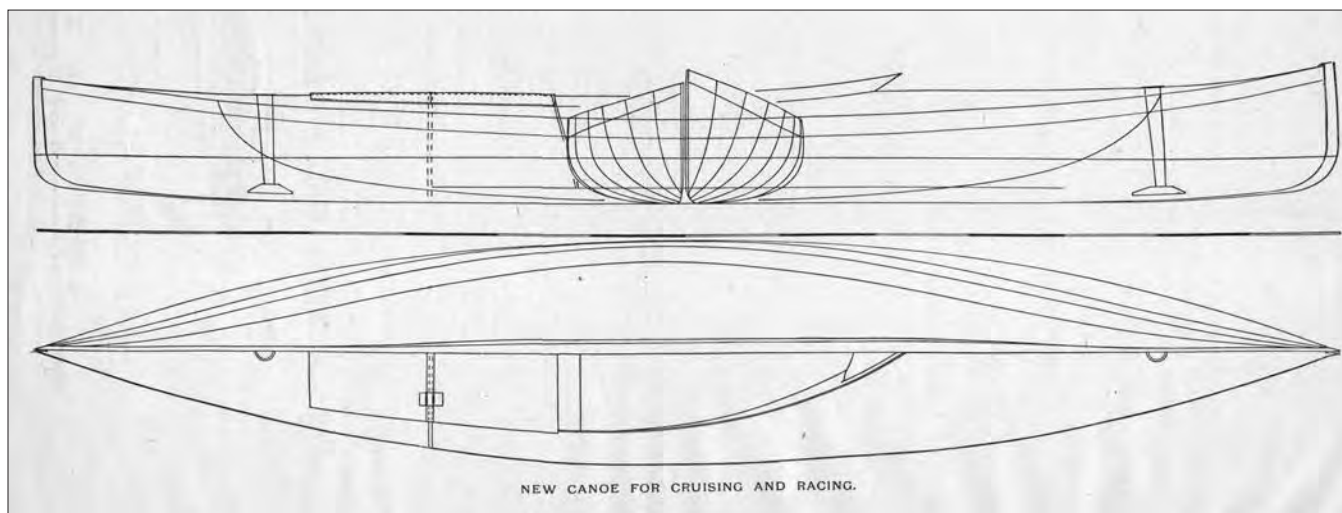

Figure 5. Stephens designed the American Cruising Canoe in 1884. Source: *Forest and Stream*, November 20, 1884.
**American Cruising Canoe.** This canoe (Figure 5) was designed for use in the open waters around New York City and was an attempt to combine characteristics that would make effective for both cruising and racing. The design was published in the November 20, 1884, issue of *Forest and Stream*, and in the accompanying article the plumb stern post is described as a novel feature that increased the waterline length without increasing the overall length of the canoe (all other things being equal, an increase in waterline length increases speed of a boat). The canoe was designed to carry ballast, as was still common for canoes of this time period. Stephens suggested that for cruising, the sails should have areas of 50 and 20 square feet, and for racing 70 square feet in the main-sail and 25 in the mizzen. Recommended construction was lapstrake with cedar planking and a mahogany sheer strake and mahogany decks. Stephens also specifically recommends fastening the white oak ribs with rivets peened over copper burrs, not clinch nails. It took him three years or more, but Stephens built himself a canoe to this design. Called *Hermit*, details of her construction and performance were published in the British publication *Model Yachtsman and Canoeist* in 1888 (Figure 6). (A digital collection of this journal is available from the Albert Strange Society [[www.albertstrange.org](http://www.albertstrange.org)].)